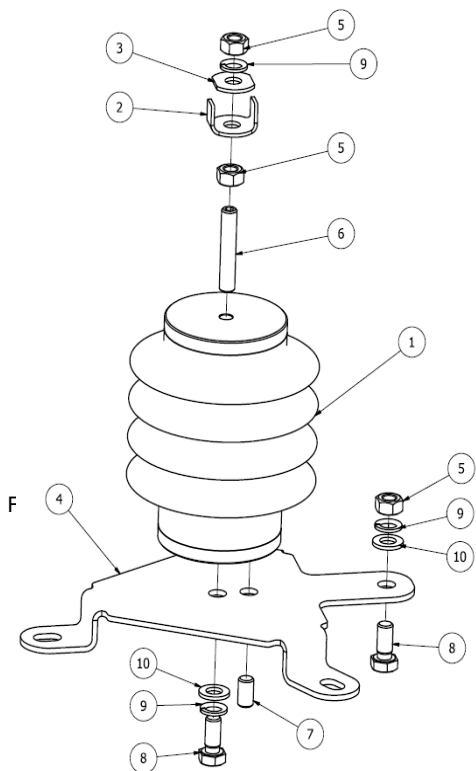

Fig.6 Correctly mounting of surge arrester
The method of assembling and tightening torques of screw connections are shown in Figure "Correctly mounting of surge arrester with line terminal" and "Correctly mounting of surge arrester with disconnecter", which is always attached to each batch of surge arresters. For screw connections used to be typical assembly tools in the form of keys and sockets using the torque wrench. Figure 6 shows a examples mounting of surge arrester equipped with mounting base and line terminal. When installing the terminal line first tighten the grub screw pos. 6 (using hex head cap 6 mm - for grub screw M12) with a torque of 50 Nm and then develop it in the nuts and washers pos. 2, 3, 5, 9. Tightening the individual nuts pos. 5 (use a cap, wrench size 19 mm) of terminal line is also 50 Nm. Installation of the mounting base